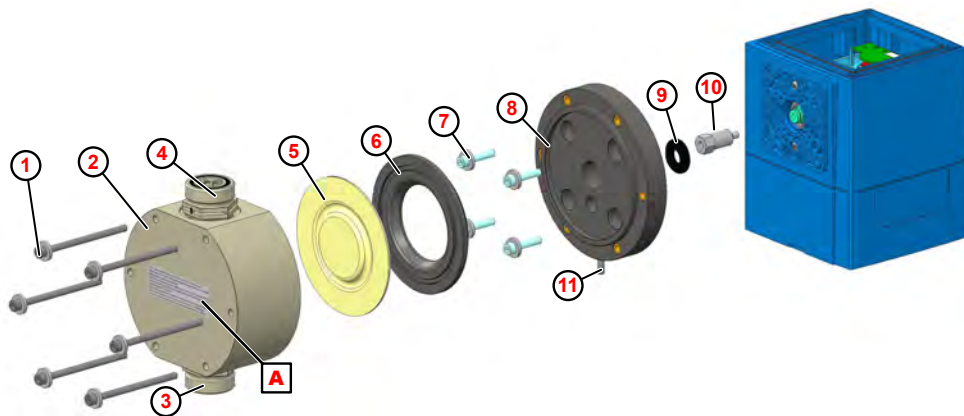

Fig. 25: Replacing the pump head, diaphragm and protective diaphragm
1. ➤ Unscrew and remove the suction and pressure valve (Fig. 25 , ③ and ④).
2. ➤ Loosen and remove the pump head screws ① .
3. ➤ Remove the pump head ② .
4. ➤ Unscrew and remove the diaphragm ⑤ .
5. ➤ Remove the intermediate plate ⑥ .
6. ➤ Loosen and remove the fixing screws for the adapter plate ⑦ .
7. ➤ Remove the adapter plate ⑧ .
8. ➤ Remove the protective diaphragm ⑨ .
10. ➤ Insert the intermediate plate so that the diaphragm rupture outlet ⑪ points downward.